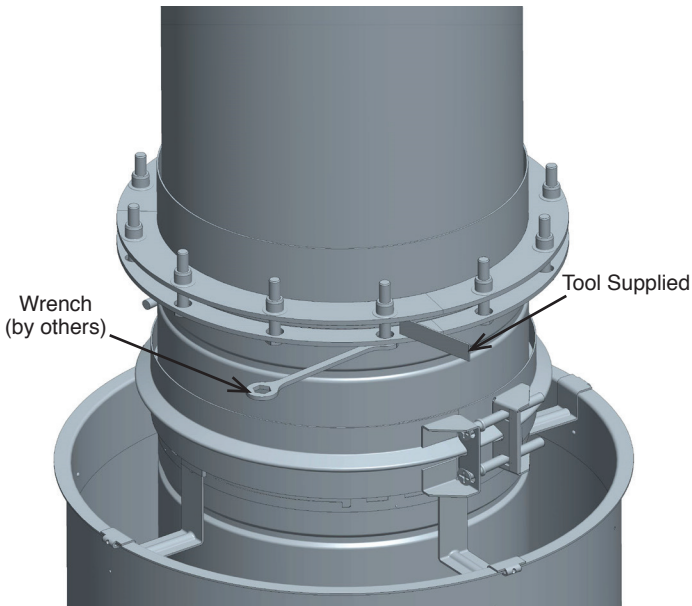

Figure 18 - Step 5 of the Adjustable Length
There is also a supplied tool with this assembly. This tool works as a spacer when tighten the bolts of the containing rings on the graphite gasket. See **Figure 18**.
5. Tighten all the bolts of the containing ring. For each bolt, use the supplied tool as a guide between the two containing rings. See **Figure 18**.